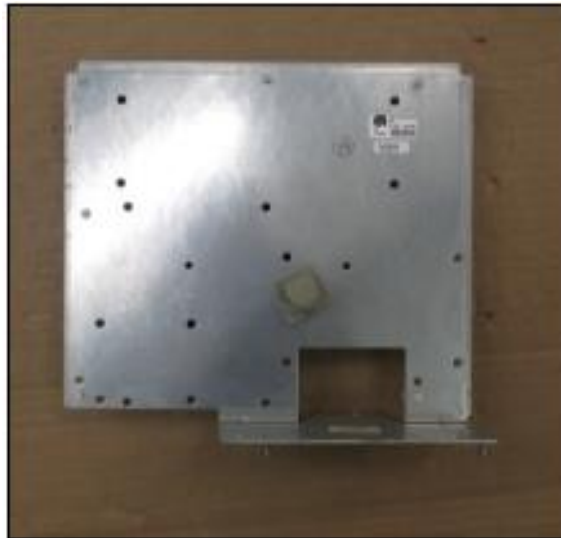

Fig 2.15e – CRIND Control Bracket after removal
- h. Remove the CRIND Control Bracket from the dispenser. It can be discarded. It will not be re-installed. (Fig 2.15e)